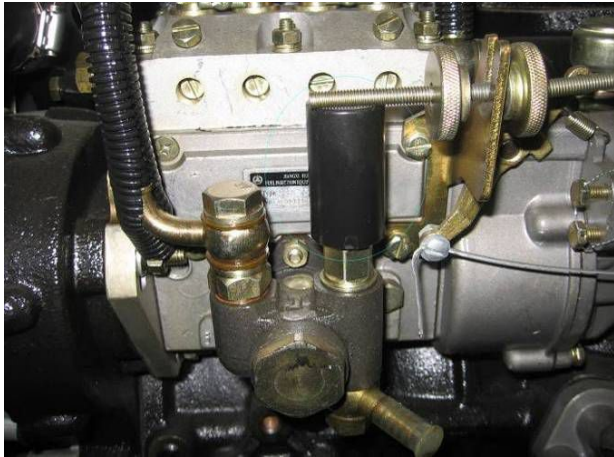
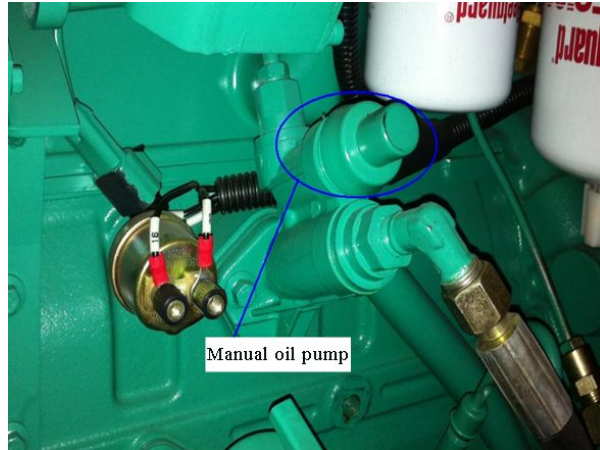

Fig.3-5
Fig.3-6
- Add the fuel into the oil pipe, operate the oil pump till there is sufficient oil in the oil pipe. For different motors, the position and operation method are different. Here, Lovol engine (as shown in Fig.3-5) and Cummins engine (as shown in Fig.3-6) are described. Continuously pump the oil manually with the high pressure oil pump